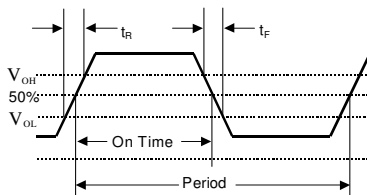
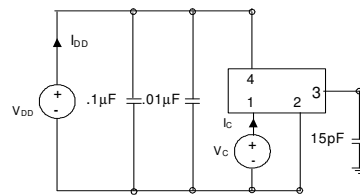

Figure 5: Output Waveform
Figure 6: Typical Output Test Conditions (25±5°C)
2. Parameter is defined in Figure 5 and tested as shown in Figure 6.
4. Symmetry is defined as On Time/Period (Figure 5).